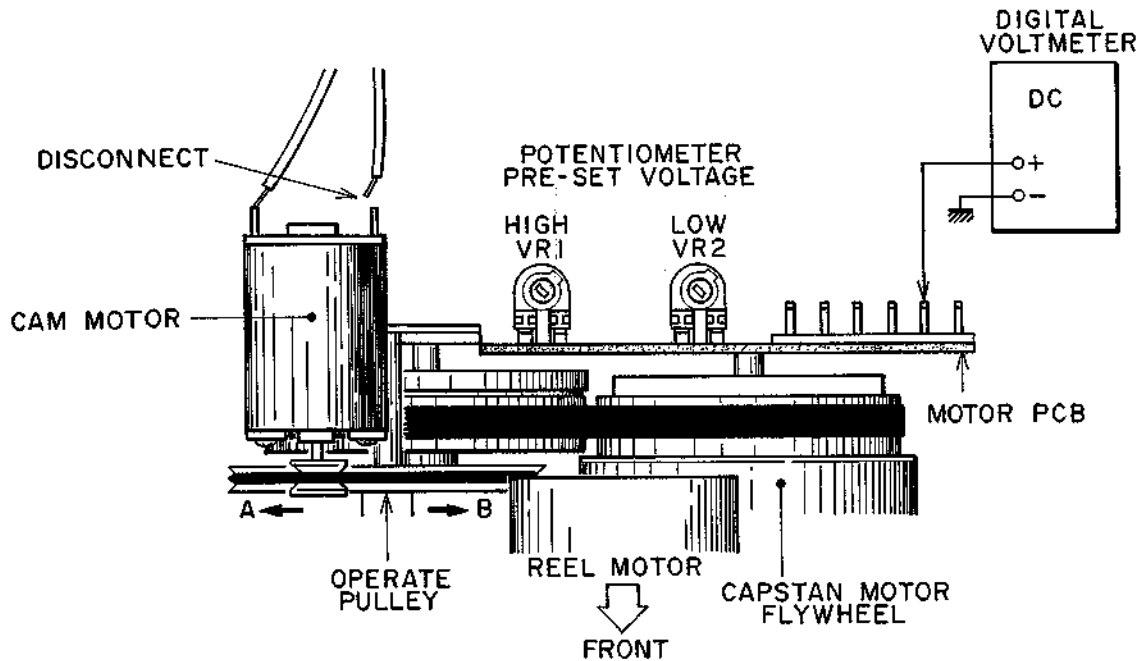
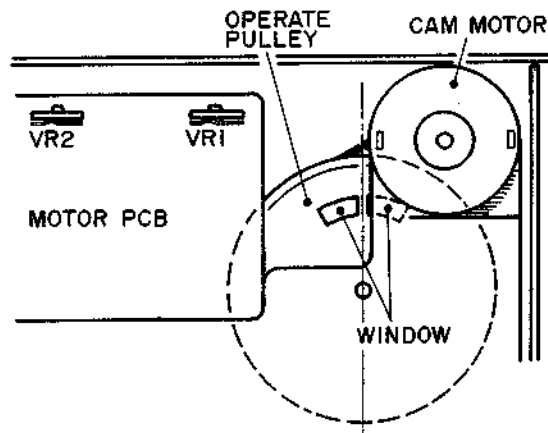

Fig. 7-4
Fig. 7-5 Position of Operate Pulley in STOP Mode
ADJUSTMENT (Refer to Fig. 7-4)**
- b. Connect the digital voltmeter as shown in Fig. 7-4.
- c. With power ON, adjust VR2 so that the voltage reading is 0.78V (DC).
- b. With power ON, adjust VR1 so that the voltage reading is 6.73V (DC).
- b. Adjust VR1 slightly so that a center line between windows of the operate pulley will be directly above the pulley centre during STOP Mode. (Fig. 7-5)